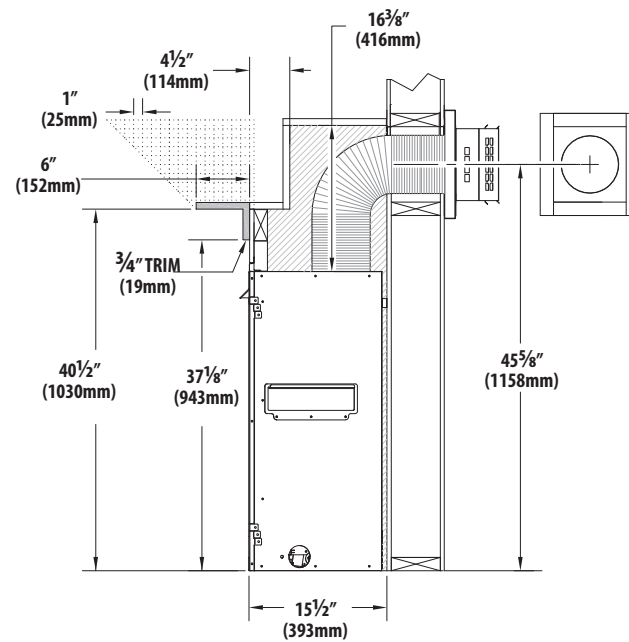

FIGURE 4.1 Clearances to Combustibles
**Combustible Mantel Projections:** As referenced in **FIGURE 4.1**, the 3/4" (19mm) trim can start at 37-1/8" (943mm) above the fireplace enclosure floor with a 6" (152mm) mantel starting at 40-1/2" (1030mm) above the fireplace enclosure floor. Mantel projections can increase 1" (25mm) of depth for every 1" (25mm) of height starting at the 6" (152mm) mantel.